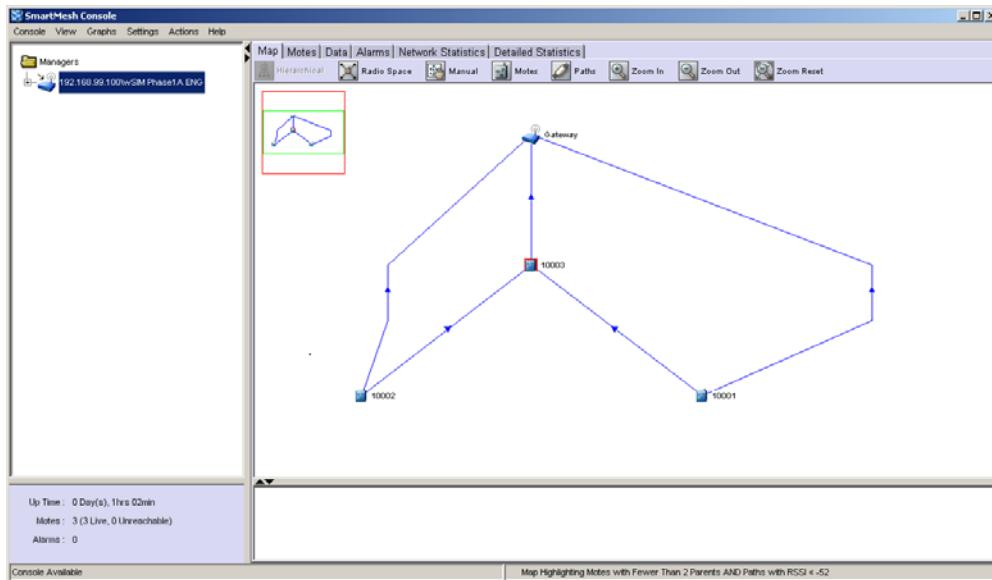

Figure 3-4: 802.15.4 Mesh Network Verification
9. Observe the wSIMs appearing in the Smart Mesh Console labeled with their respective serial numbers, see Figure 3-4.